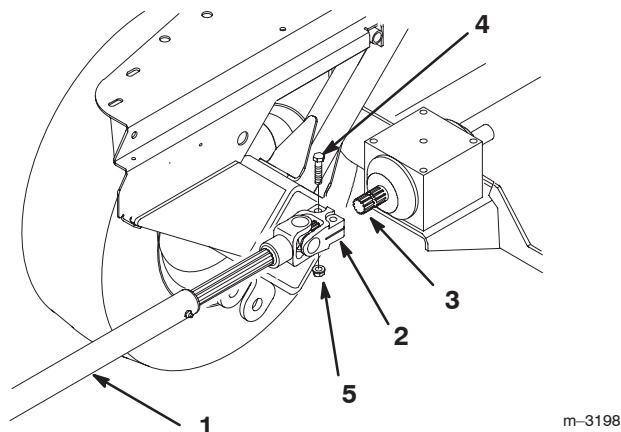

Figure 28
16. Remove 2 bolts (3/8 x 1-5/8 inch) and locknuts (3/8 inch) from universal joint and slide the drive shaft off gearbox shaft (Fig. 28).